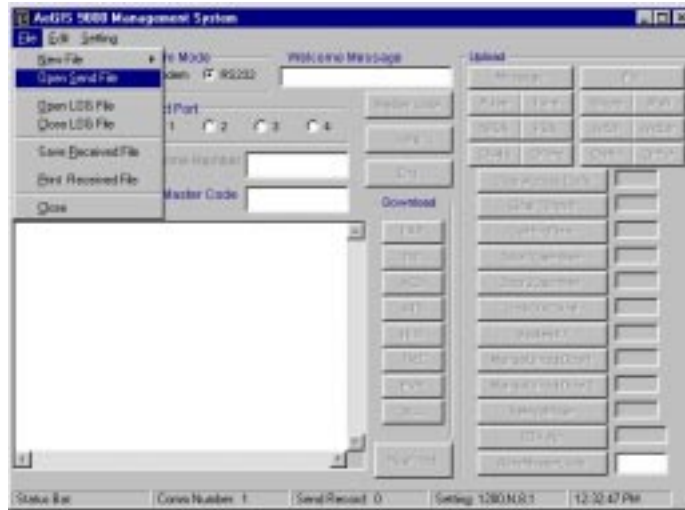

Figure 5.5
Step 1 Open the existing tenant directory database file, click on “File” as shown on figure 5.5.
Step 2 Click on “Open Send File” as shown on figure 5.5 and you will see figure 5.6.
- Step 1** Click on "File" and select "Open Send File". See figure 5.5.